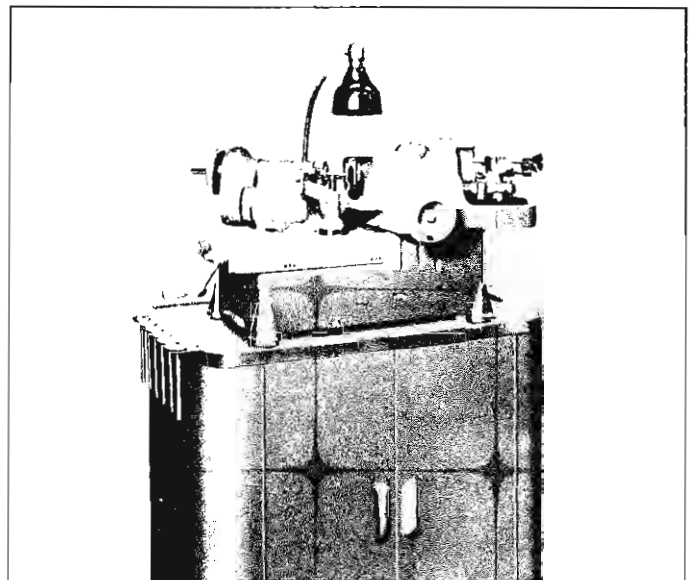

Fig. 13—Valve Refacing Machine
1. If necessary, dress the valve refacing machine grinding wheel to make sure it is smooth and true. Set the chuck at the 30° mark for grinding intake valves. Set chuck at 45° mark for grinding exhaust valves (fig. 13).